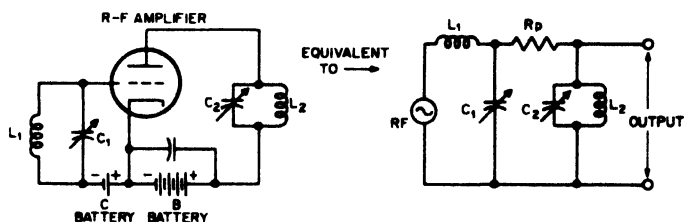
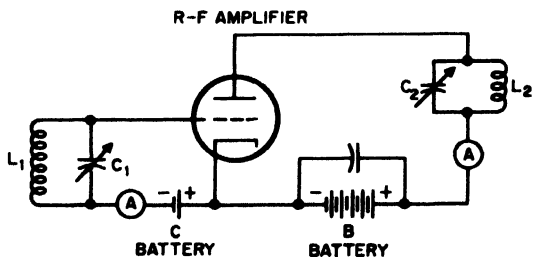

Fig. 40-21. Diagram showing the equivalent circuit of a radio-frequency amplifier.  $R_p$  is the internal resistance of the tube.
Fig. 40-22. Diagram showing how direct-current milliammeters are hooked into the grid and plate circuits of the radio-frequency amplifier to test for resonance.
**Testing for Resonance.** The principle of resonance must be applied to continuous-wave transmitters. Let us investigate this problem now. In Figure 40-21 we have a diagram of the radio-frequency amplifier with its equivalent circuit. Note that the grid tank circuit ( $L_1$  and  $C_1$ ) is a *series* resonant circuit, but that the plate tank circuit ( $L_2$  and  $C_2$ ) is a *parallel* resonant circuit. Both of these tank circuits may be tested for resonance by connecting milliammeters in the grid and plate circuits as shown in Figure 40-22.